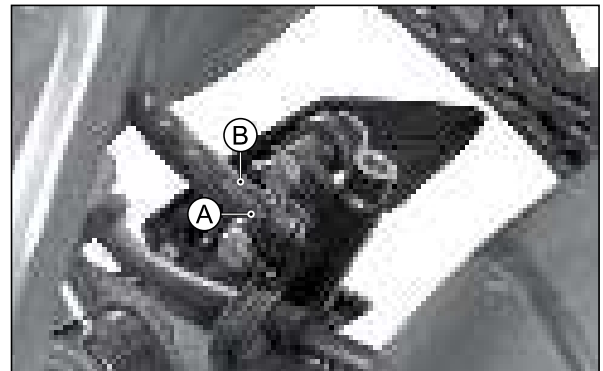

Fig. 6.129
- Remove the clip hose (A) and take out hose oil (B). (Fig. 6.129)